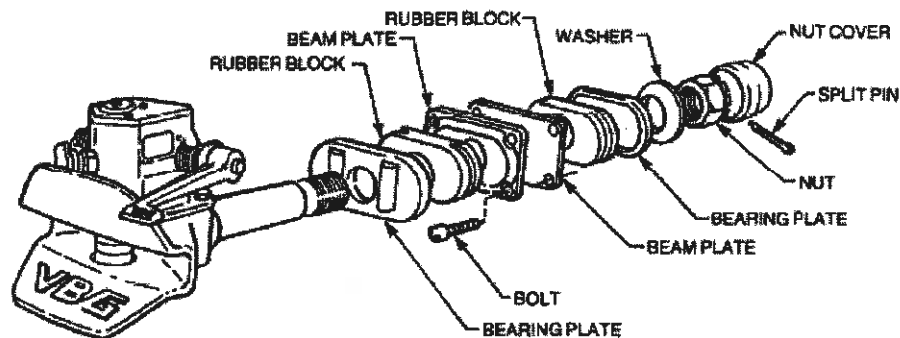

Figure 47 Tow Coupling - Exploded View
- a. Remove the nut cover from the nut and shaft (Figure 47).